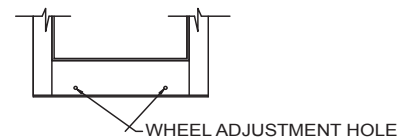

Figure 10
• To adjust rollers on panels use a Phillips head screwdriver to turn adjustment screws located on the bottom outside of panel. Screw guns can strip the adjustment and therefore are not recommended. (See Figure 10)